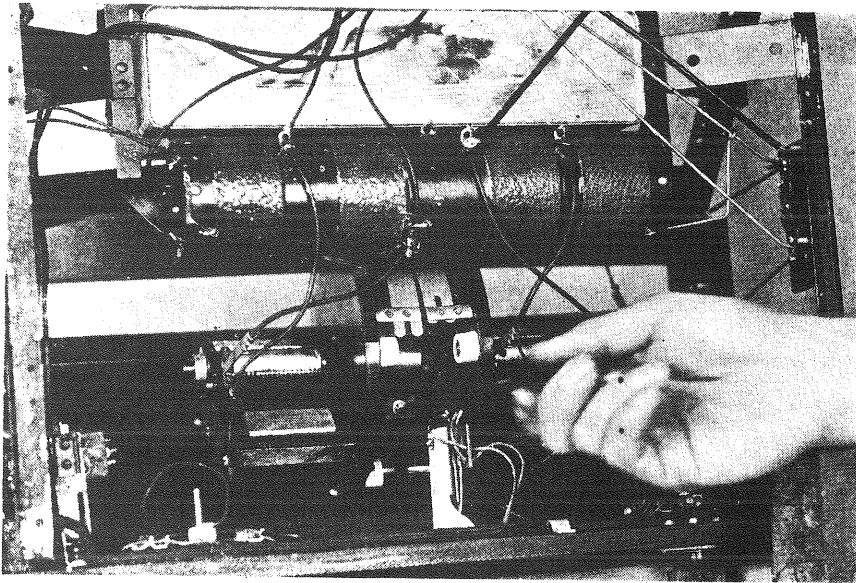

Figure 5—Adjusting friction shaft clutch tension screw inside of tuning drum assembly
- (a) Remove panel assembly from cabinet and re-adjust the friction shaft clutch tension screw located inside of the tuning drum assembly (Figure 5). This screw controls the pressure of the friction clutch against the shaft of the opposite condenser. If one drum turns too hard when the other is held, release the tension screw slightly.
(8) NOISY RECEPTION CAUSED BY SCRAPING DIALS